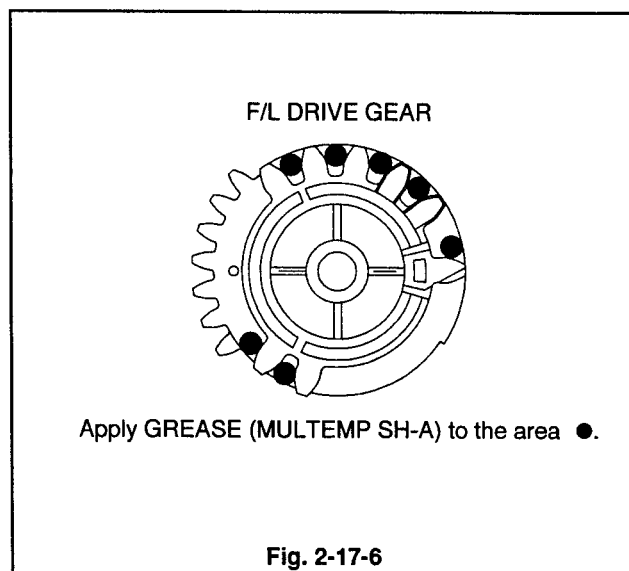

Fig. 2-17-6
8. Apply GREASE (MULTEMP SH-A) [859D055O80] to the area specified in Fig. 2-17-6 on the new F/L DRIVE GEAR.